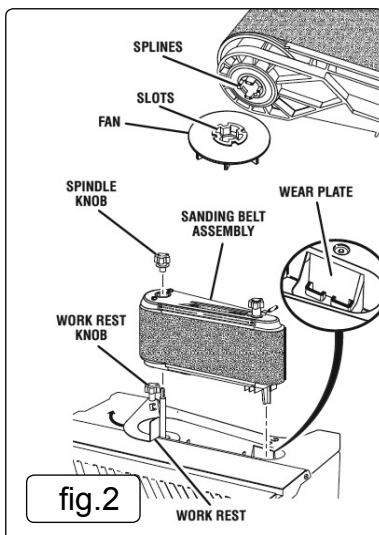

fig.2
- 5.1.1. Slide the fan onto the motor shaft (fig.2) with the vanes facing down. Rotate the fan gently until it engages with the lugs on the drive shaft.